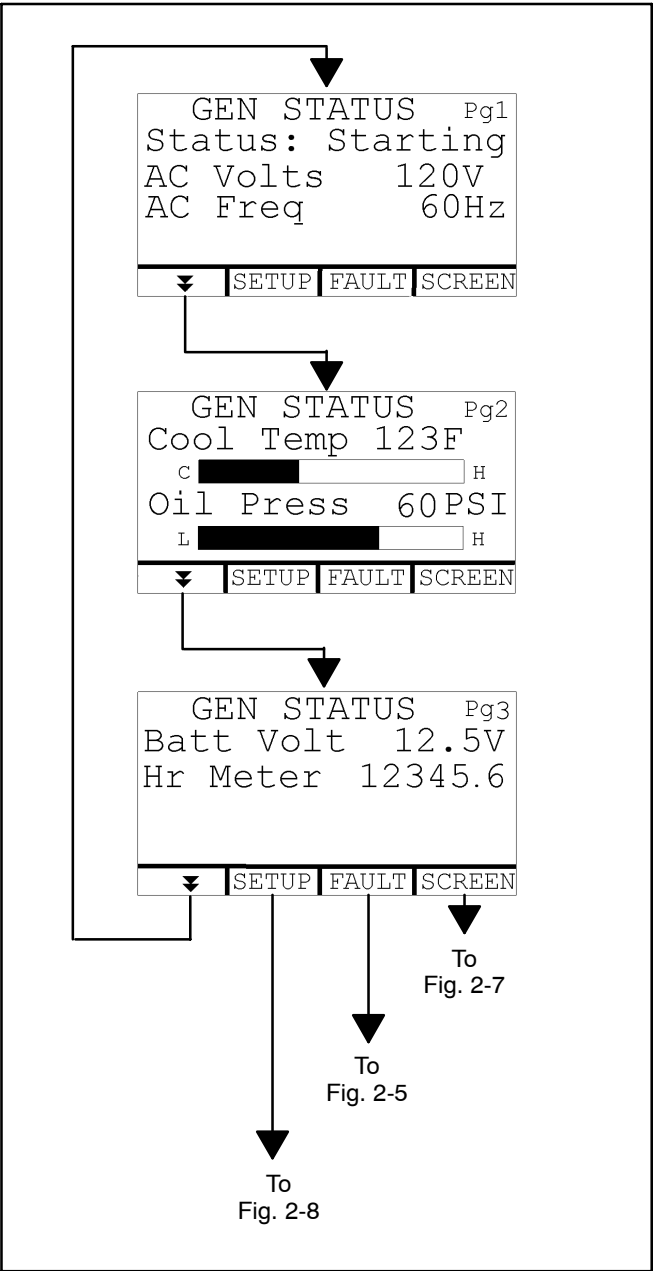

FIGURE 2-3. TYPICAL GENSET STATUS SCREENS
Starting the Genset: Push and Hold **START** until the genset starts. The GENSET status lamp blinks while the engine is preheating and cranking. It comes on when the genset starts and stays on while it runs. The status displayed on the LCD changes from *Starting* to *Running* (Figure 2-3). See STARTING THE GENSET (p. 3-3).
Stopping the Genset: Push and Release **STOP**. The GENSET status lamp will go out. The status displayed on the LCD will change from *Running* to *Stopped* (Figure 2-3). See STOPPING THE GENSET (p. 3-3).
Priming the Fuel System: Push and Hold **STOP**. The GENSET status lamp will blink. The status displayed on the LCD will change to *Priming* in 2 seconds (Figure 2-3). See PRIMING THE FUEL SYSTEM (p. 3-3).
Genset status is displayed on 3 screen pages (Figure 2-3). GEN STATUS PG1 appears when the Display is turned on. Press the double arrows [↕] to toggle between the 3 screen pages.
1. **Push and Hold START** on the e-Series Digital Display or control switch until the genset starts. The genset status lamp blinks when the engine is cranking and comes on and stays on when the genset starts and runs. The status displayed on the e-Series Digital Display changes from *Starting* to *Running* (Figure 2-3).